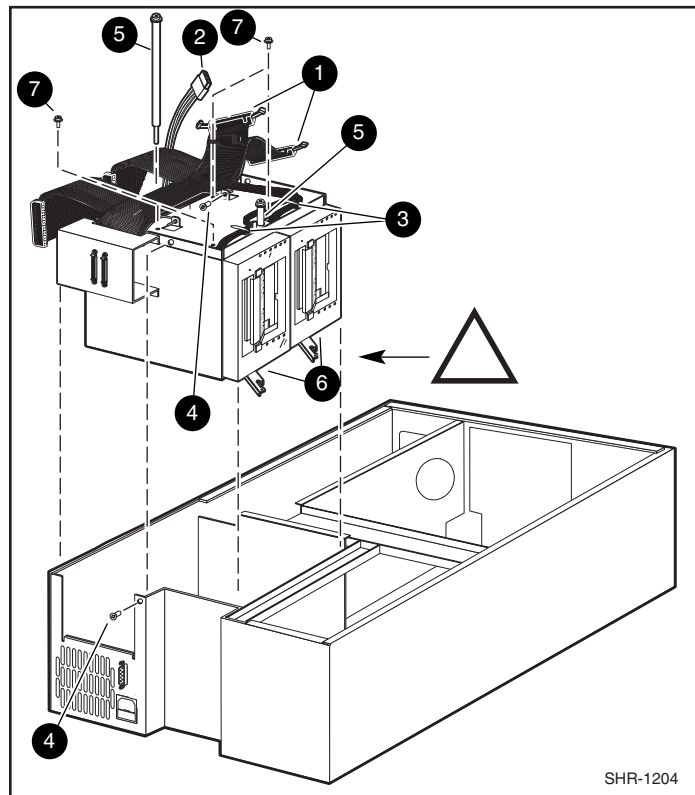

Figure 4. Drive caddy
1. Grasp the drive caddy assembly by the handle, tilt the front end down at a slight angle, and then lower it into position in the Base Module. Orient it as shown in Figure 4.
2. Replace the two M4 extension screws ❺ at the top of the assembly.
3. Coat the threads of the two M4 x 8 mm flat-head Phillips screws ❹ with Loctite 222, and replace them on the upper edge of the drive caddy assembly.
4. Connect the drive 0 and drive 1 RS-422 cables ❸ to the controller PWB.
5. Connect the drive power cable ❷ to the power supply connector.
6. Connect the SCSI cable connectors ❶ to the controller SCSI extension cable.
1. Remove the four 6-32 sems pan-head Phillips screws ❷ that hold the blank panel in place in the drive caddy assembly; there are two on the top of the assembly (Figure 4) and two on the bottom of the assembly.
5. Slide the drive ❸ into the drive caddy assembly. Position the drive so the threaded holes in the top and bottom of the drive are aligned with the screw holes.